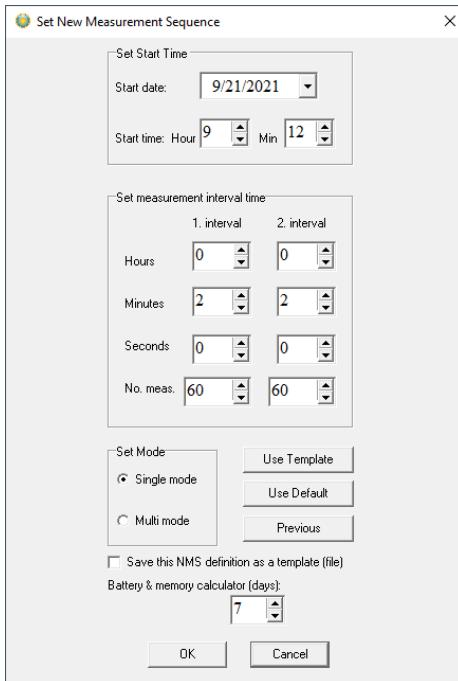

Figure 6.7: Setting new Measurement Sequence (with multiple intervals)
- **Interval Sequence 1-14:** The interval sequence must be filled out. As shown in figure 6.7, the user selects to use intervals 1-7 for the recordings. Another example: Suppose two of the first sampling